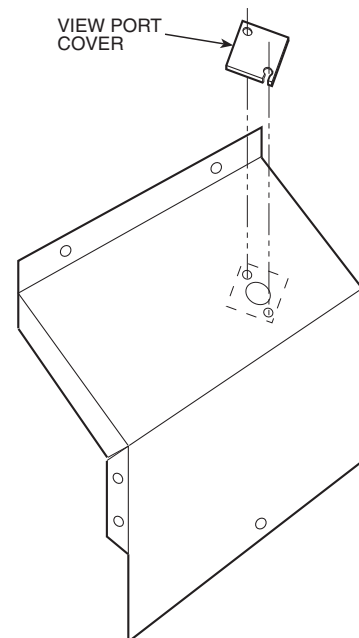

Fig. 66 — 14-in. Inlet Hood View Port Cover Installation
5. Inlet hoods are shipped unassembled and must be assembled on the access panel (see Fig. 65-67). Flanges of the hood top and sides should be installed on the inside of the access panel openings with the screws provided. The sides should be placed on the inside of top hoods for all hood assemblies (6-in., 14-in., and 30-in.). Attach speed clips to screen. Insert screen into bottom opening of 6-in. and 14-in. hoods and secure it with 3 screws. To ease the installation, the 30-in. hood screen may be inserted from inside of access panel (gas section door) into bottom opening of hood. Secure with 5 screws. Attached view port cover over 14-in. inlet hood opening (Fig. 66). Secure with two screws.